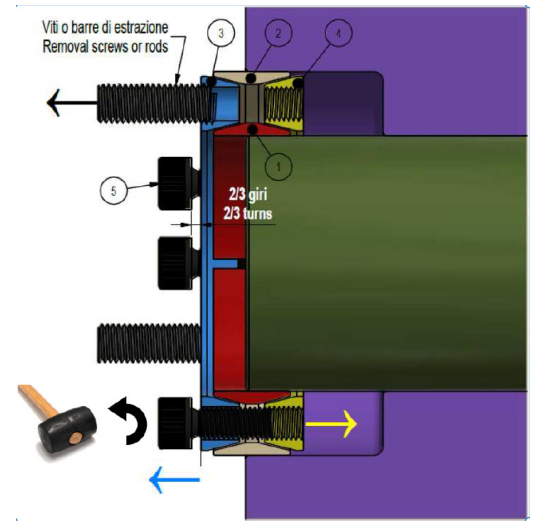

Fig. 4
2. **Progressively loosen all screws in several passes** until the thrust rings have released (self-releasing tapers). Should the thrust rings jam, light hammering on the head of three equally spaced, pre-loosened screws may be necessary to release the thrust rings (fig. 4).
3. Hub and Locking Assembly are normally removed together. Removal of Locking Assembly from deep counterbores is accomplished using two or three removal screws or threaded rods (supplied by others) turned into the pull-out threaded holes located in the front thrust ring under the zinc plated screws (fig. 4).